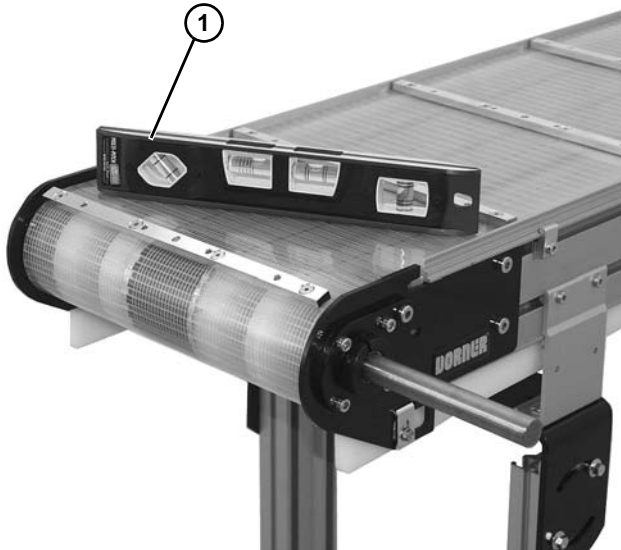

Figure 4
Conveyor **MUST** be mounted straight, flat and level within confines of conveyor. Use a level (**Figure 4, item 1**) for setup.